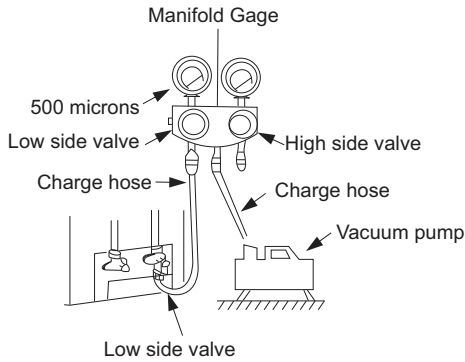

Fig. 17 – Manifold
- Fully open the low side of manifold gage. (See Fig. 17)